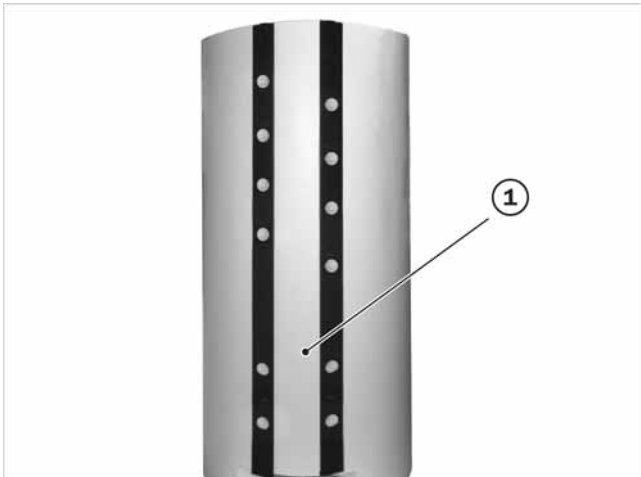

Fig. 6: Close the insulation at the front
3. Put a narrow insulation section between the connection rows (see → Fig. 6 (1)).